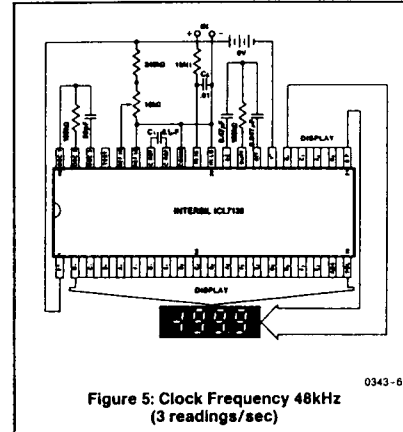

Figure 5: Clock Frequency 48kHz (3 readings/sec)
6. 48kHz oscillator, Figure 5, increases current by 20 $\mu A$  (typ).